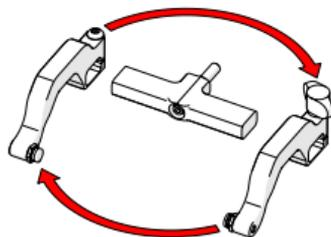

Fig. 124 - Reverse position around yoke
4. Position removed arms to opposite sides of the yoke (Fig. 124).